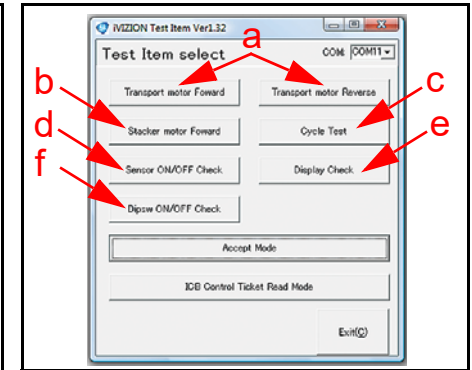

Figure 7 Typical iVIZION Test Item Select Screen
The "**Test Item select**" Screen shown in Figure 7 will appear.
Figure 7 illustrates a typical iVIZION Test Screen.
The following two (2) tests runs the Transport Motor in a forward or reverse direction (See Figure 7 a).
This test cycles the Stacker Motor (See Figure 7 b).
This test performs a full transport/stacking cycle of the iVIZION Unit (See Figure 7 c).
This test performs a functional test of each iVIZION Unit Sensor (See Figure 7 d and Figure 9).
This test cycles the LED Display on the right side of the iVIZION Unit (See Figure 7 e).
This selection tests the functional operation of each DIP Switch located on the Transport Assembly's 8-position DIP Switch Block (See Figure 7 f).